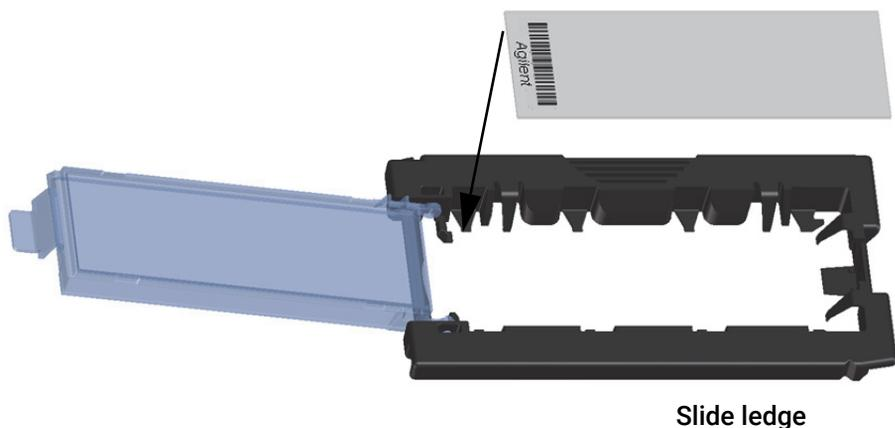

Figure 19. Inserting slide into the slide holder
- a Hold the slide at the barcode end and position the slide over the open slide holder. Make sure that the active microarray surface faces up with the barcode on the left, as shown in **Figure 19**.
- b Carefully place the end of the slide without the barcode label onto the slide ledge. See **Figure 19**.